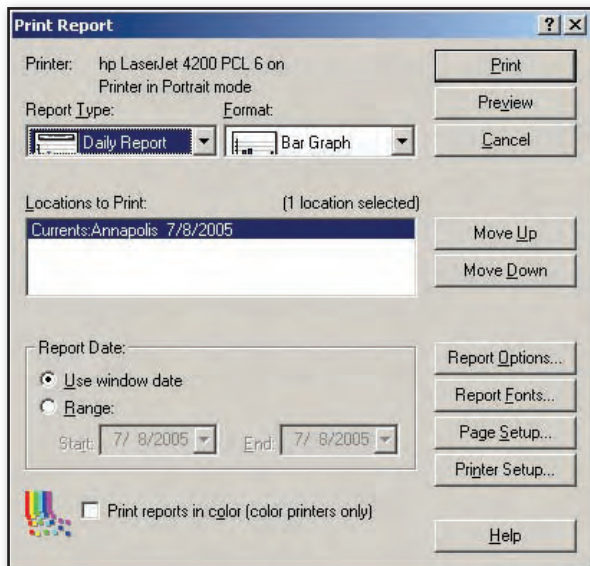

Figure 10.2 - Tides & Currents - Print Options Dialog Box
5. Using the Tides & Currents print options dialog box (see **Figure 10.2**), select how you would like your tide or current printout to appear.